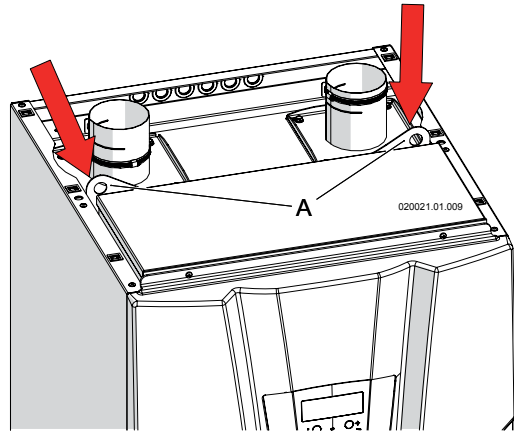

Figure 6-3 Install eyebolt to lift the appliance
4. Access to the uplift bracket "A" (Figure 6-3) on the upper side of the heater (see Figure 6-3);